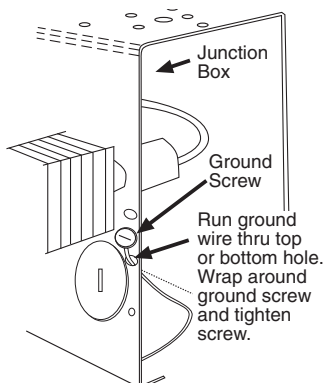

Fig. 3
- Following the wiring diagram secured to the heater, make electrical connections. Ground the heater using the ground screw provided. See Fig. 3.